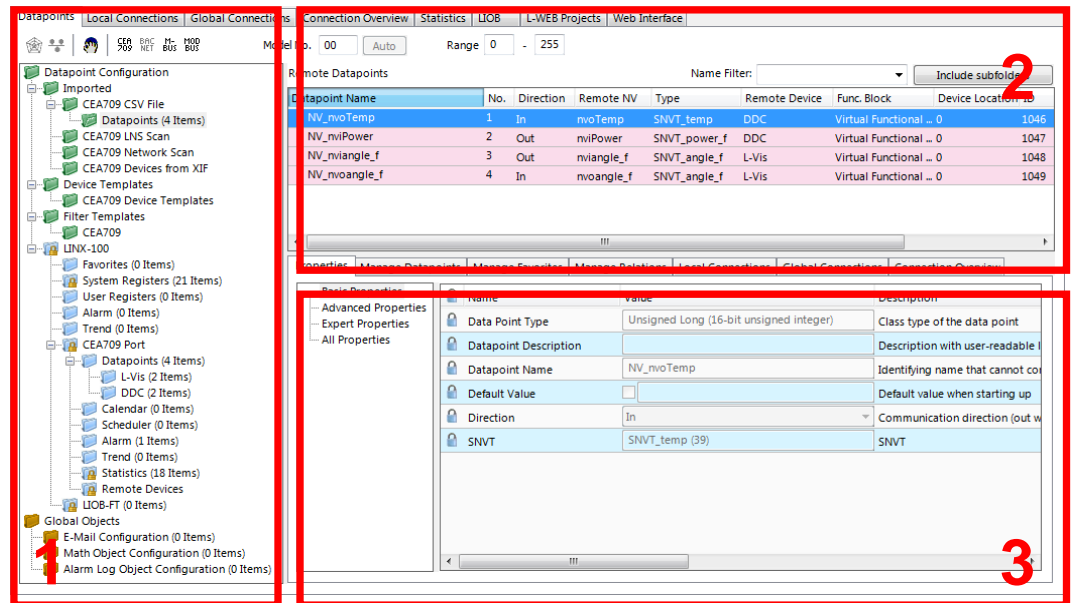

Figure 17: Data Point Manager Dialog.
The Configurator uses a central concept to manage data points. The data point manager is located on the **Datapoints** tab as shown in Figure 17. It is used to select, create, edit and delete data points. The dialog is divided into three sections:
- The folder list (number 1 in Figure 17),
- The data point list (number 2 in Figure 17),
- And a property view (number 3 in Figure 17).